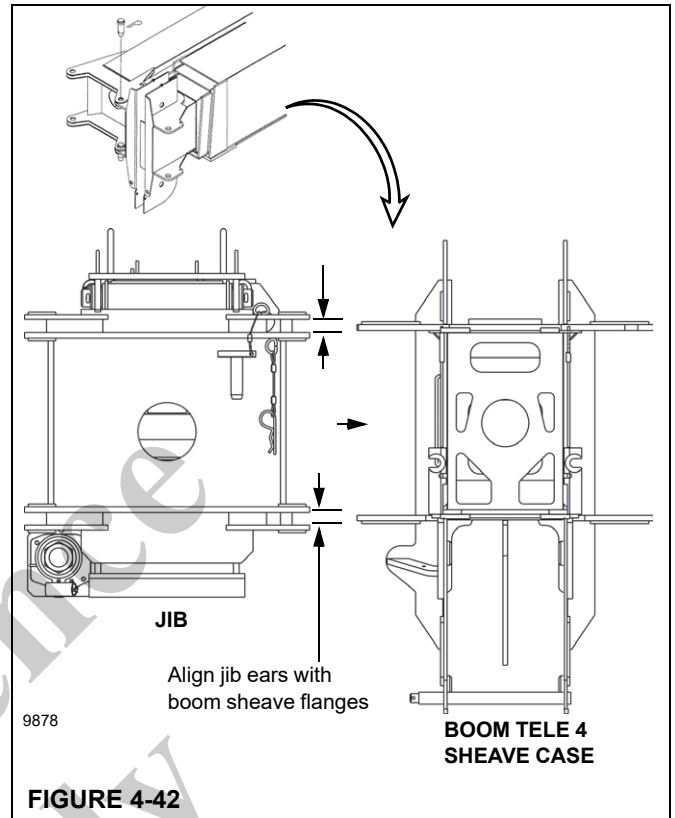

FIGURE 4-42
10. Extend and retract boom to insure proper alignment of jib ears. The jib ears should align with the boom jib flanges (Figure 4-42).